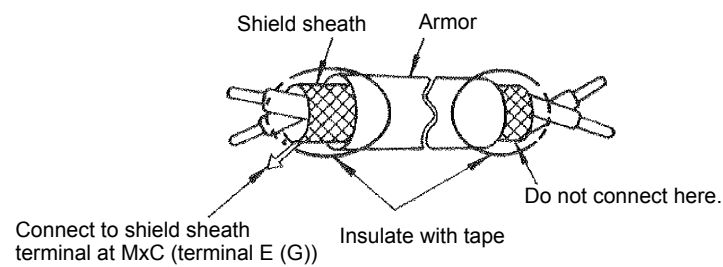

Fig 2.20 Processing the Ends of Shielded Twisted-Pair Cables
- Use shielded twisted-pair cables for control circuits to prevent operating faults. Process cable ends as shown in *Fig 2.20*.
- Connect the shield wire to terminal E (G).